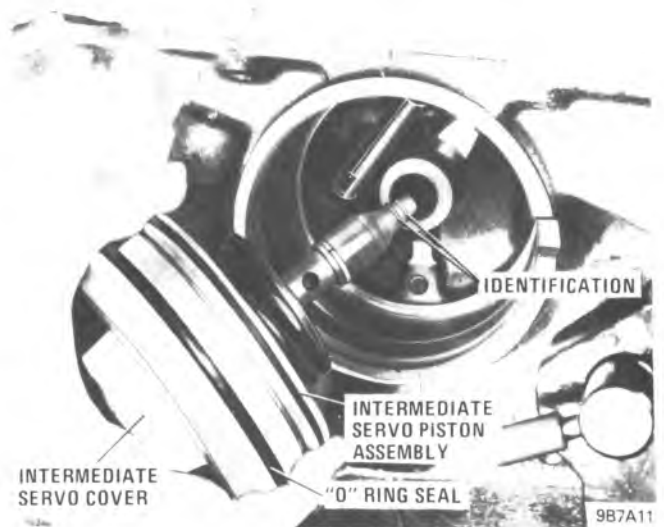

Figure 7A1-26 Removing Intermediate Servo
e. Apply 12 N·m (100 lb. in.) of torque to hex nut on side of gage. Slide dial indicator over pin J-25014-1. (Figure 7A1-28). Read dial indicator and see chart below for proper size.